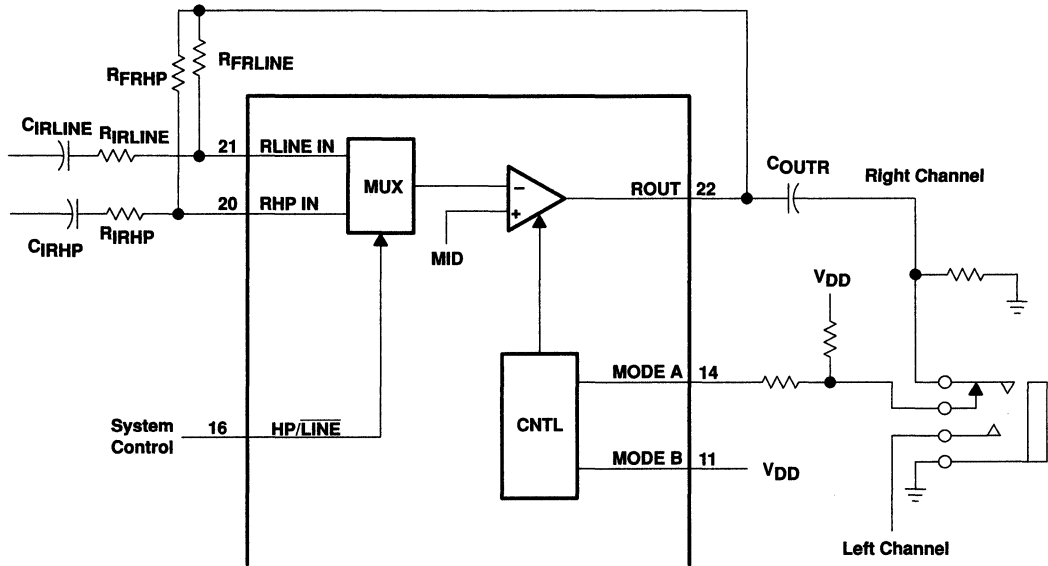

Figure 64. TPA0103 Example Input MUX Circuit
Using a readily available 1/8-in. (3.5-mm) stereo headphone jack, the control switch is closed when no plug is inserted. When closed, the 100-kΩ/1-kΩ divider (see Figure 64) pulls the MODE A input low. When a plug is inserted, the 1-kΩ resistor is disconnected and the MODE A input is pulled high. When the input goes high, the center BTL amplifier is shutdown causing the speaker to mute. The SE amplifiers then drive through the output capacitors (CO) into the headphone jack.
The HP/LINE MUX feature gives the audio designer the flexibility of a multichip design in a single IC (see Figure 64). The primary function of the MUX is to allow different gain settings for different types of audio loads. Speakers typically require approximately a factor of 10 more gain for similar volume listening levels as compared to headphones. To achieve headphone and speaker listening parity, the resistor values would need to be set as follows: